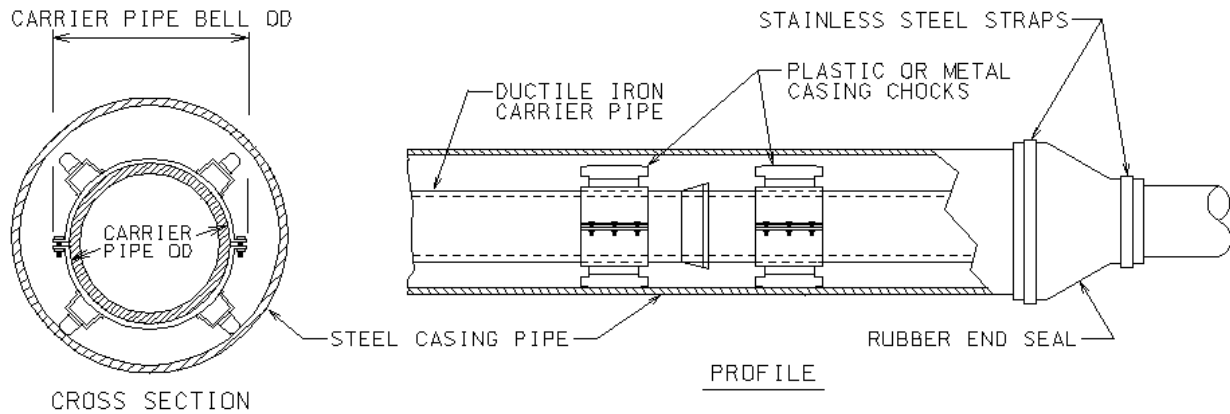

Figure 1-02445-a (Standard Carrier/Casing Pipe Details for Water and Sanitary Sewer Lines)
3.10 INSTALLATION OF CARRIER PIPE (See Figure 1-02445-a)